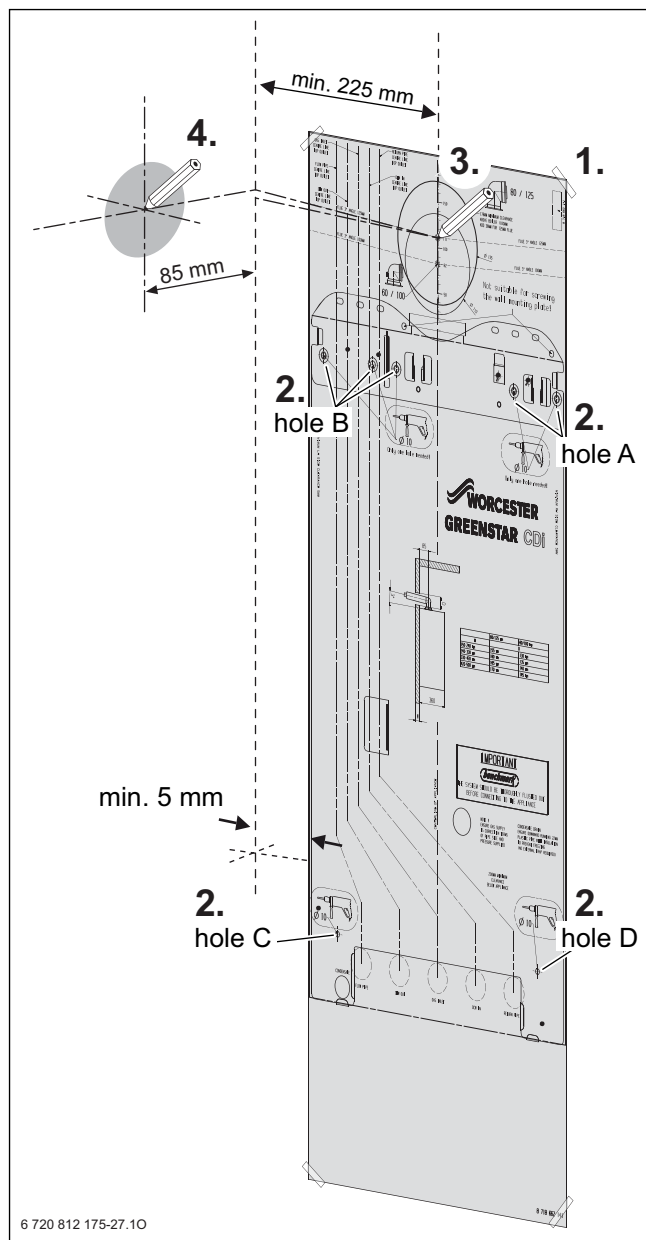

Fig. 23 Mounting template
- Fig. 23 shows the relative positions of the flue and the fixing of the wall mounting plate, the hanging bracket and pre-plumbing manifold.
- ▶ Follow the Fig. 23 to mark the centre of the flue for rear outlet (3) or for side outlet (4).